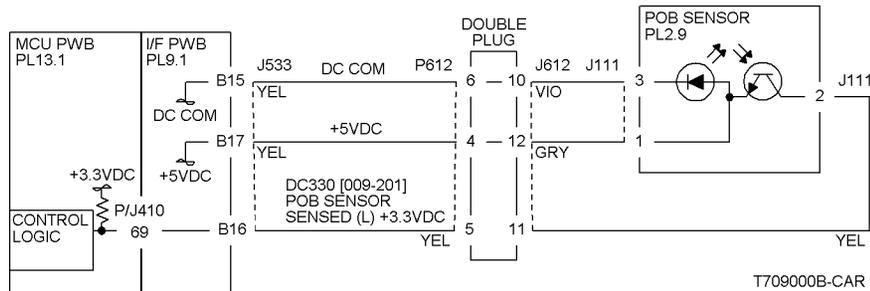

Figure 1 Typical Reflective Sensor Circuit Diagram
When sensors are unplugged, the input at the PWB should always be high if there is no harness short or PWB failure. Check the output wire from the sensor (typically pin 2 on a 3 pin connector) to the PWB for a short circuit. If the wire is good, replace the PWB. Figure 1 represents a typical sensor for this machine.
Some sensors have built-in inverters and the outputs will go to the low (L) state when the sensors are blocked. In other situations, the processing of the signal in control logic may cause the logic level displayed on the UI or the PWS to be the opposite of the actual voltage output by the sensor. The specific RAP and/or Circuit Diagram will indicate if this is the case. Figure 1 is an example of a typical sensor circuit for this machine
NOTE: To view the Circuit Diagram for this procedure refer to (Figure 1).